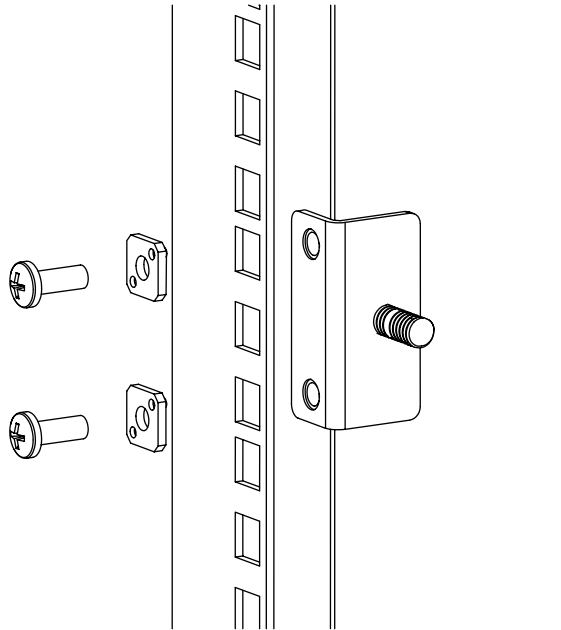

Figure 1: Installing the Rear Mounting Brackets (HP 10,000 Series Rack)
- For an HP 10,000 Series rack, assemble each of the two brackets with two #10-32 x 1/2-inch Phillips pan-head screws with captive star lock washers and two #10 adapter washers as shown in Figure 1.